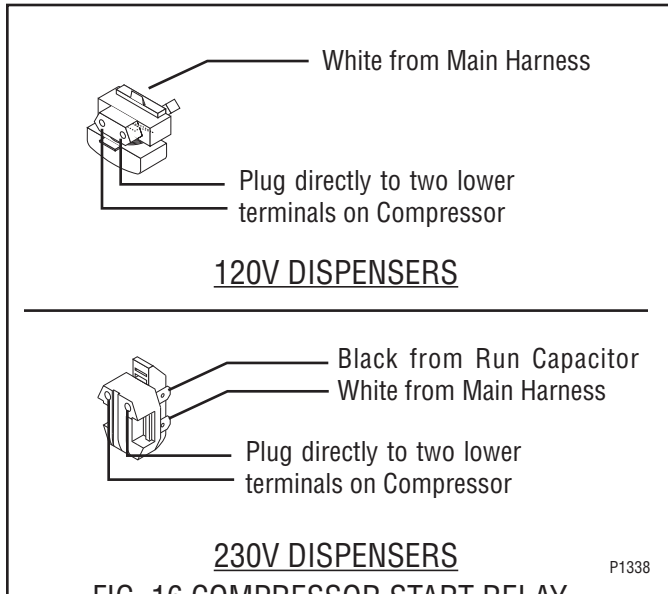

FIG. 16 COMPRESSOR START RELAY
1. Remove the terminal cover retainer (5) and the terminal cover (4)
3. Pull relay (1) off of the compressor pins and discard.
5. Refer to Fig. 16 and reconnect the wires.
6. Reinstall terminal cover (4) and cover retainer (5).